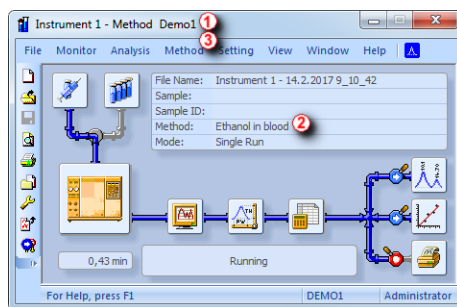

Fig 1: Instrument window
For example in **Fig 1** on pg 2., method *Demo1* is in terms of Clarity method opened on the **Instrument** ①